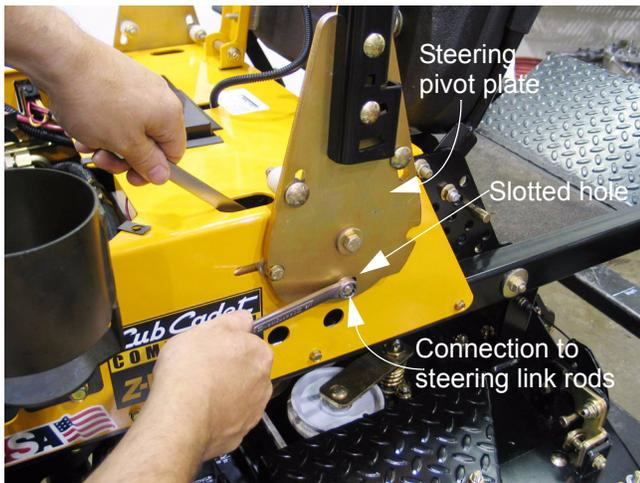

Figure 17.2
17.2. To isolate the problem to either the linkage or the hydro pumps, loosen the nut and bolt that secure the linkages to the steering pivot plates using two 1/2" wrenches. See Figure 17.2.